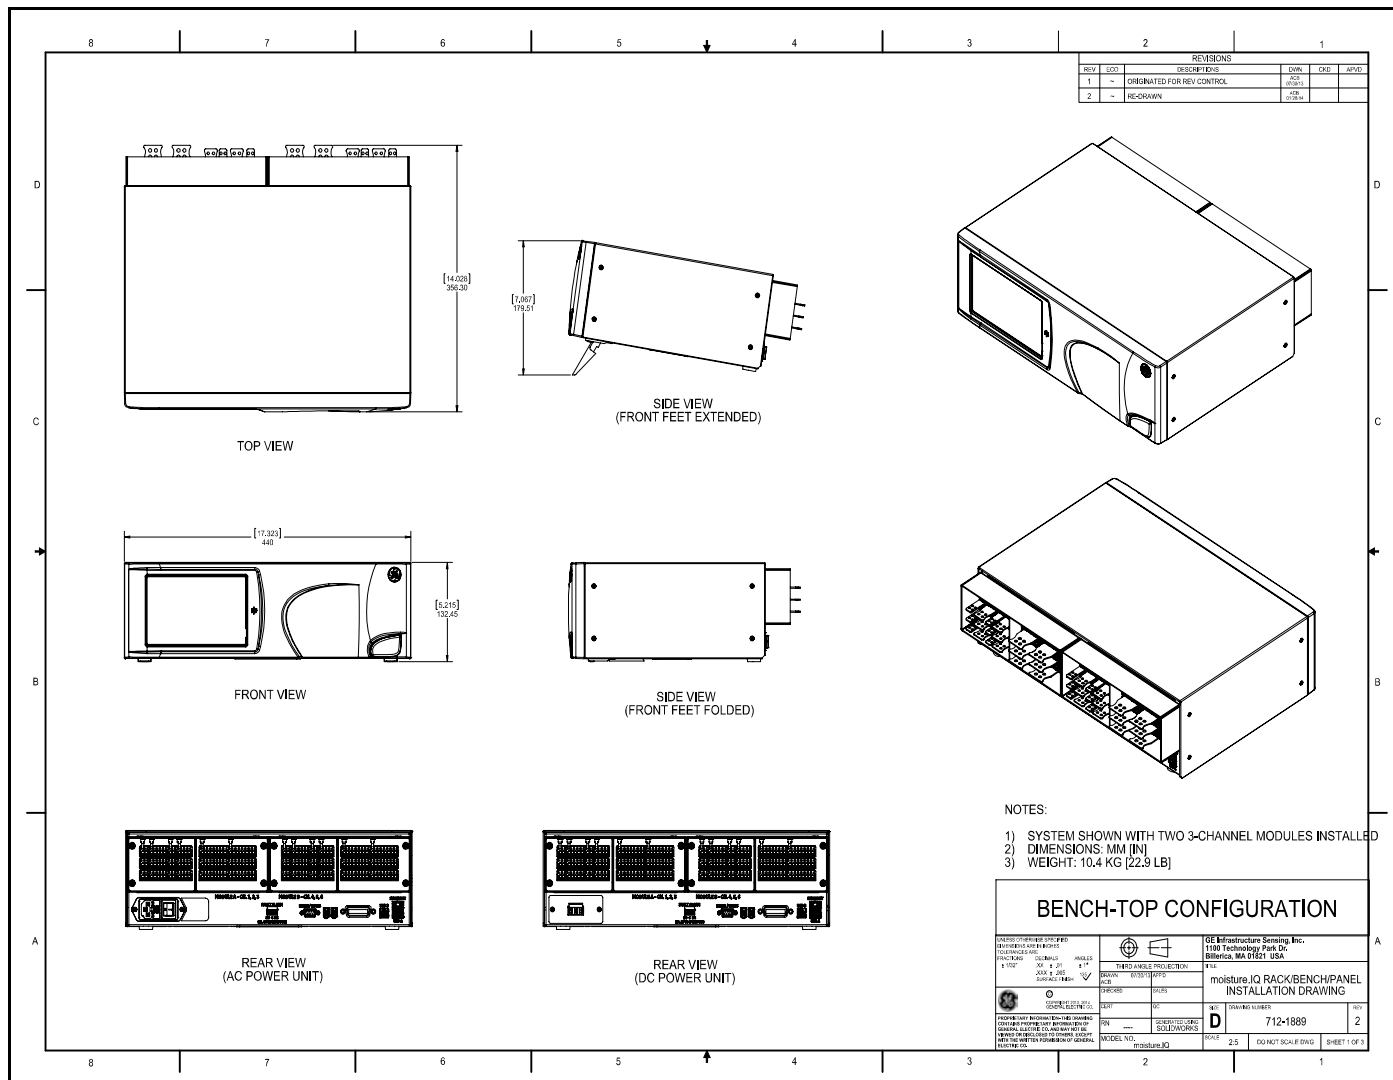

Figure 1: Drawing 752-364, Sheet 1 of 2
- The installation should comply with controlled drawing 752-364 (see *Figure 1* below and *Figure 2* on page 2).